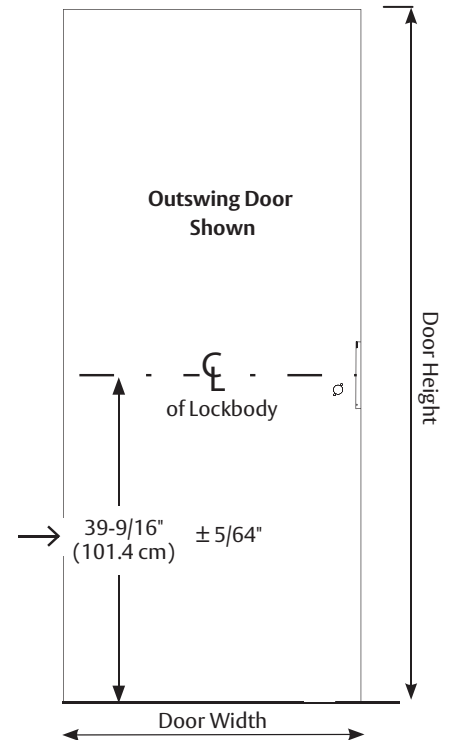

Figure 33
- Correctly prepared to Template 4740. (Figure 33)